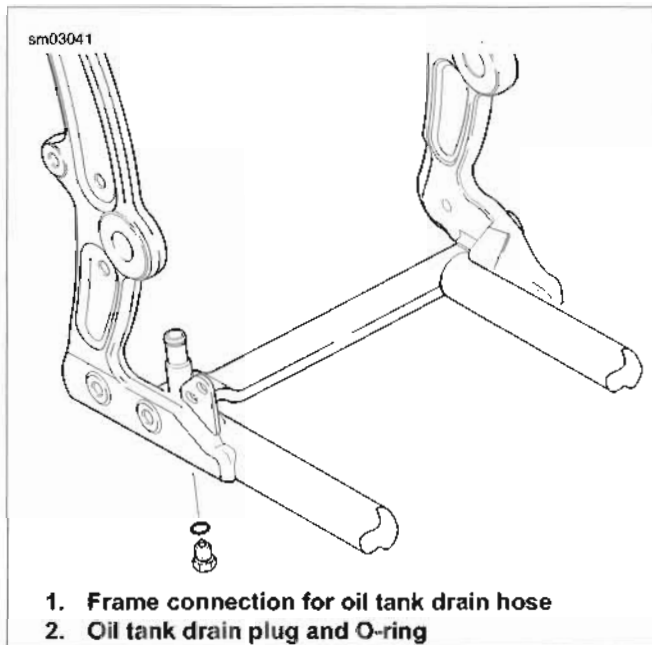

Figure 1-3. Oil Tank Drain Plug
3. See Figure 1-3. Remove the engine oil drain plug with O-ring (2). Drain engine oil.
6. See Figure 1-3. Install oil tank drain plug (2).